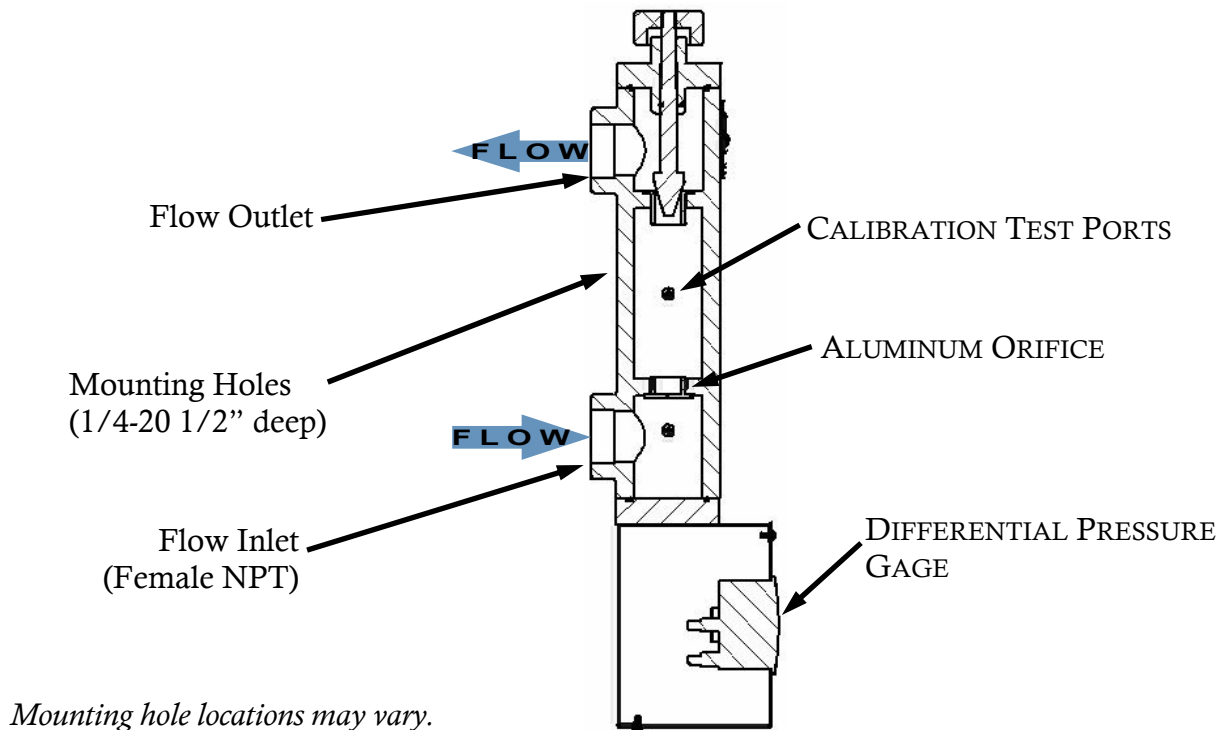

Figure 2
- Attach pipe fittings to the inlet and outlet of the Analog FurnaceMeter™ as identified in Figure 2 below. It is acceptable to utilize bushings or reducers at the Analog FurnaceMeter™ ports to accommodate the desired pipe size. However, undersized piping may limit the maximum flow rate capability. Consult pipe sizing charts or contact Atmosphere Engineering to ensure that the desired flow rates will not be compromised.